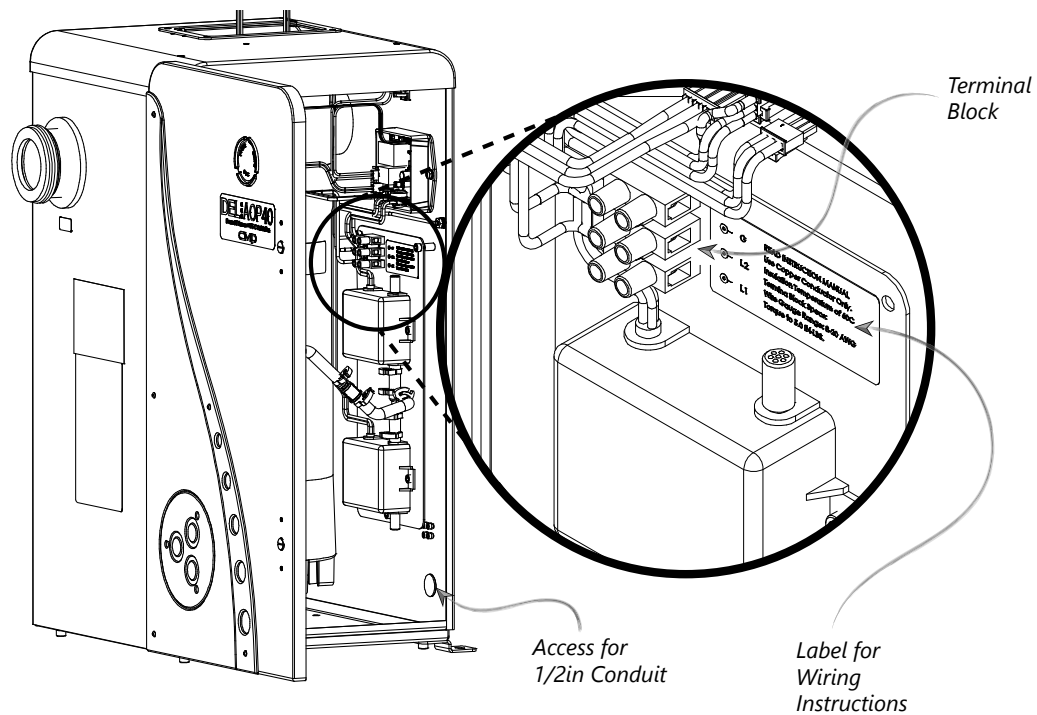

Figure 7: Terminal Block and Wiring Instructions
- Connect Line 1, Line 2 or Neutral, and Ground to the terminal block as indicated by the label on the electrical panel located on the inner right side of enclosure (see Figure 7).